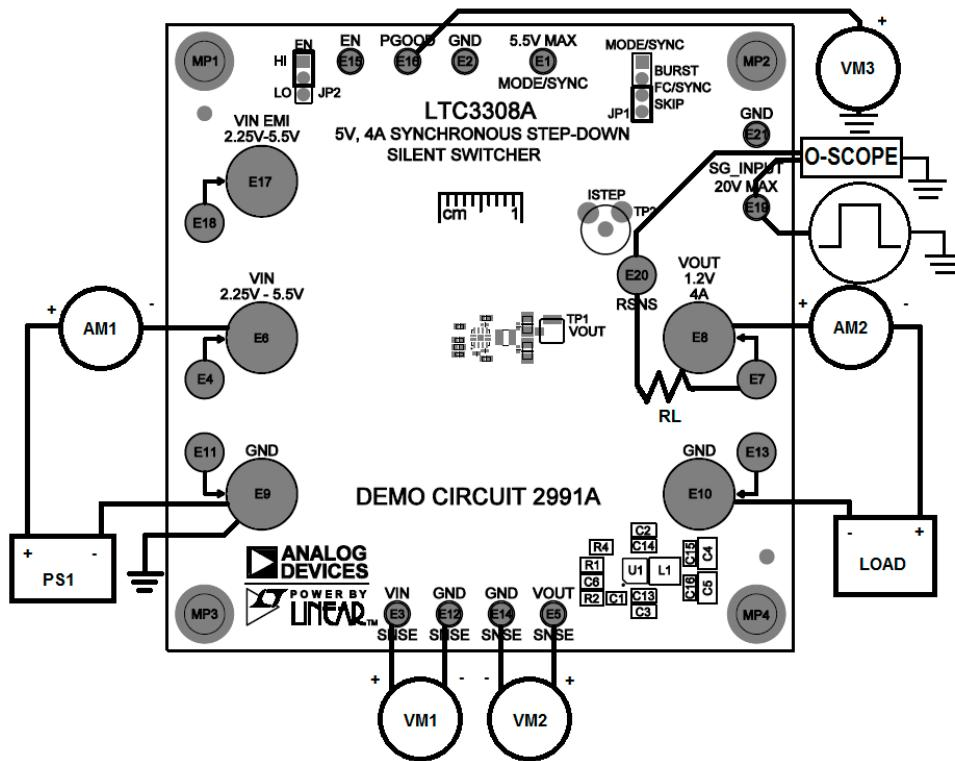

Figure 1. Test Setup for the DC2991A Demo Board
Demonstration circuit 2991A is easy to set up and use to evaluate the performance of the LTC3308A. Refer to Figure 1 for proper measurement equipment setup and follow the procedure below.
**NOTE:** For accurate  $V_{IN}$ ,  $V_{OUT}$  and efficiency measurements, measure  $V_{IN}$  at the  $V_{IN}$  SNSE and GND SNSE turrets and  $V_{OUT}$  at the  $V_{OUT}$  SNSE and GND SNSE turrets as illustrated as VM1 and VM2 in Figure 1. When measuring the input or output voltage ripple, care must be taken to avoid a long ground lead on the oscilloscope probe.
13. To test the transient response with a base load, add the desired resistor to produce a minimum load between  $V_{OUT}$  and RSNS turrets (RL shown on Figure 1). Note that the total load resistance will be RL plus R11 (100m $\Omega$ ).